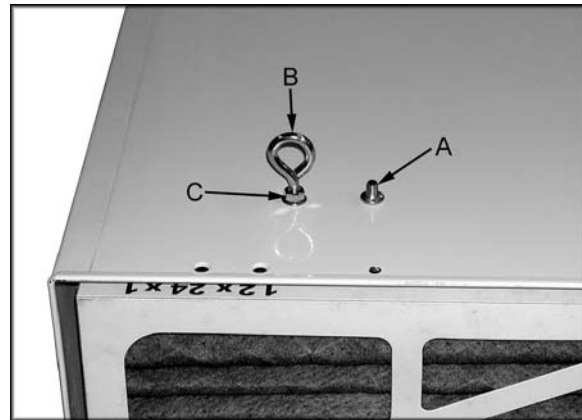

Figure 1
2. The air filtration unit can be hung from the ceiling. Remove four screws from the cabinet top (A, Fig. 1).
3. Hang the unit using four eyebolts (B, Fig. 1), and four hex nuts (C, Fig. 1) provided.